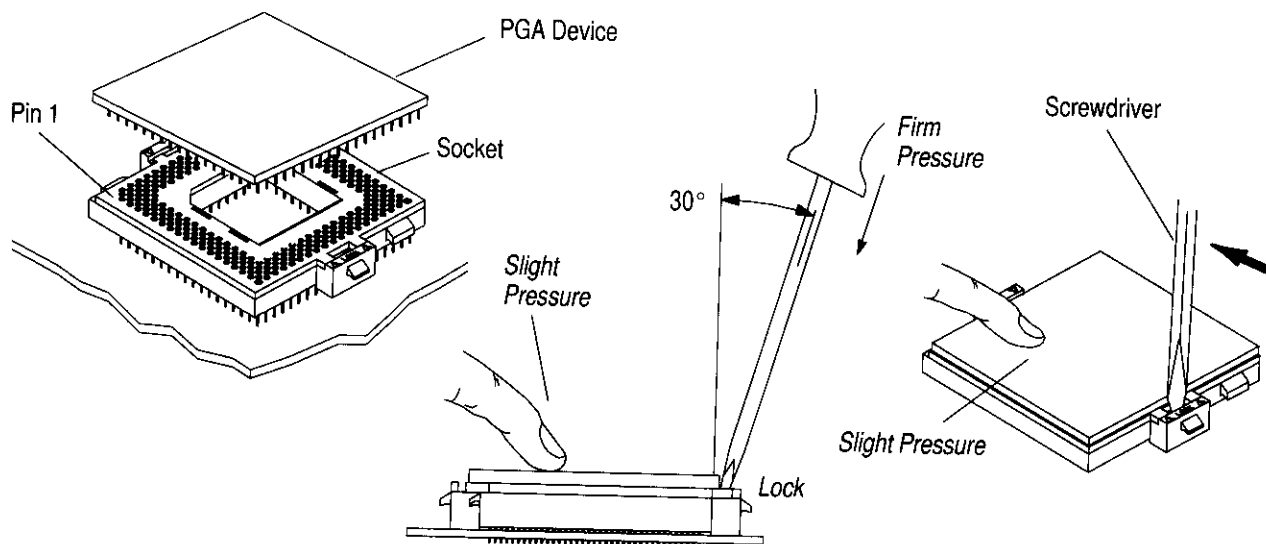

Figure 6
3.8. Assembly Procedures (to load and lock device in socket) (see Figure 6)